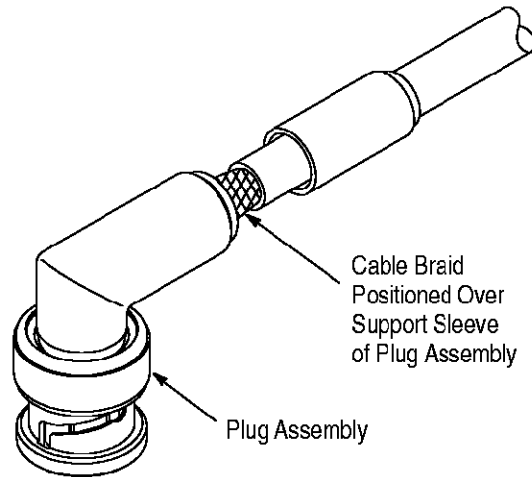

Figure 4
3. Insert center contact into plug assembly. Cable braid must be positioned over the support sleeve of the plug assembly. See Figure 4.